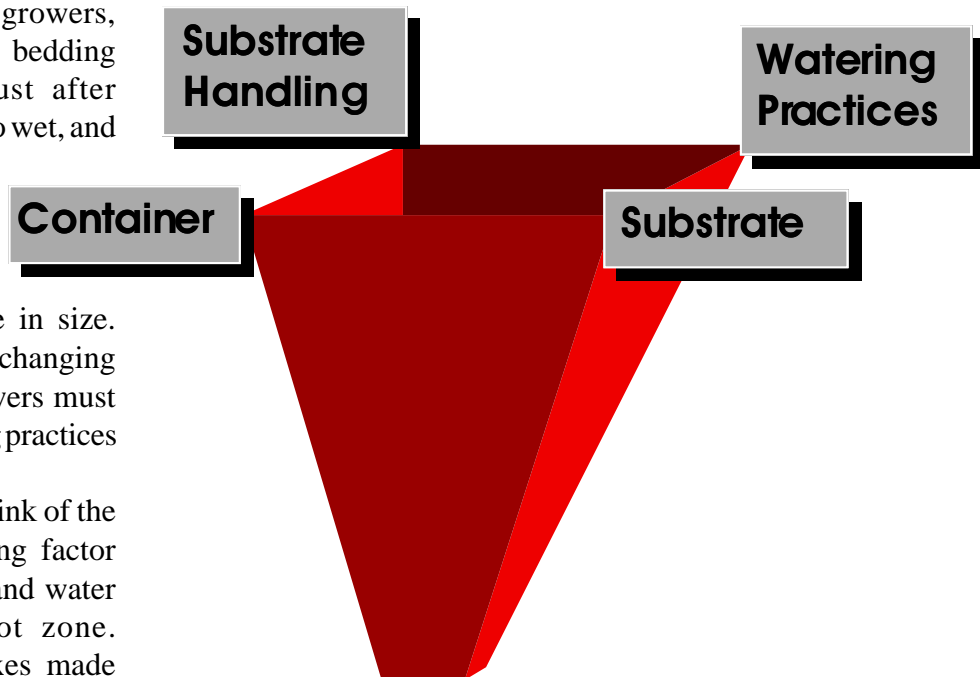

Figure 1. The four major factors which affect the air and water status in containers.
to their air and water values, as if these were fixed properties of the mix. They are not. There are four major factors which affect the air and water status in containers. These factors are like the four corners of a plug or tray cell; each is necessary in supporting the air and water content in that cell (Figure 1). The four corners are: ❶ the substrate (components and ratios); ❷ the container (height and shape); ❸ substrate handling procedures; and ❹ watering practices. Each of these four factors have a profound effect on air and water content.